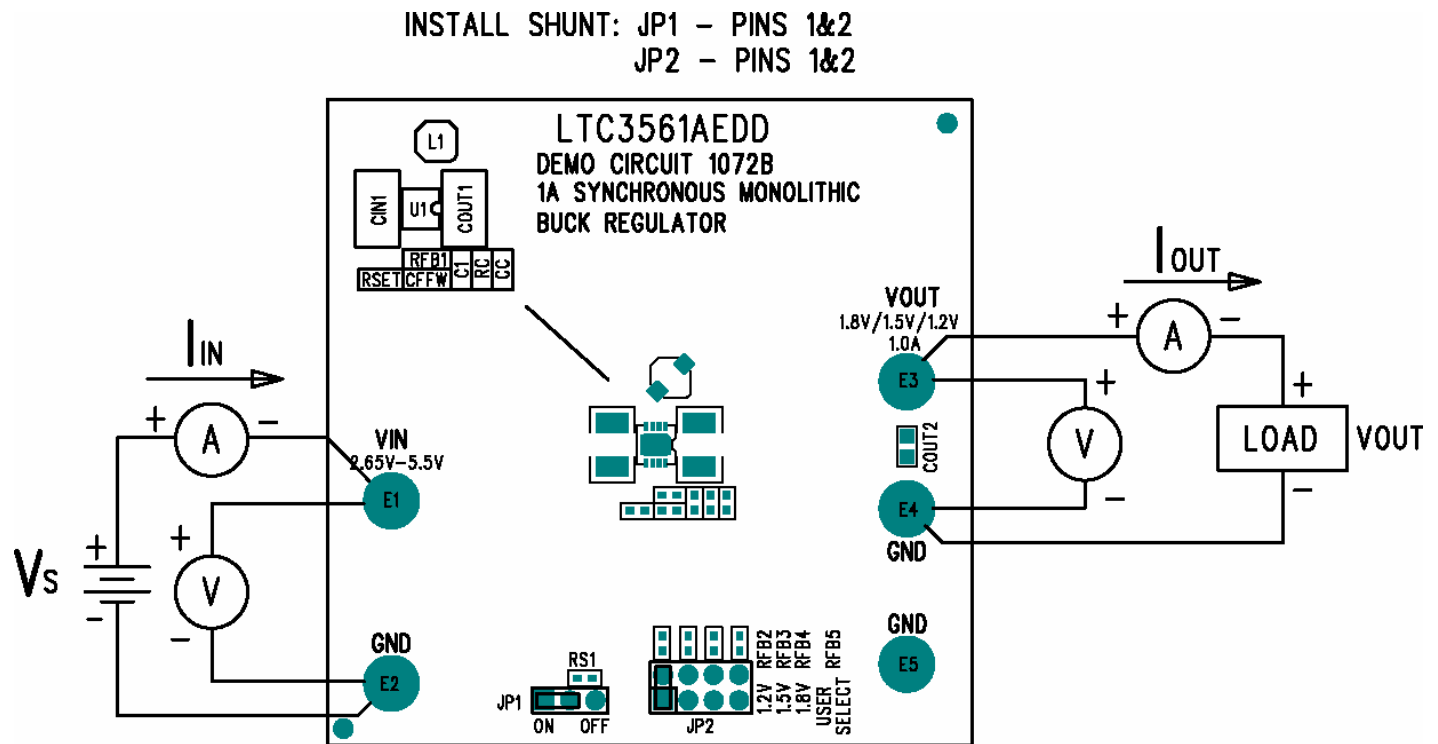

Figure 1. Proper Measurement Equipment Setup
Demonstration Circuit 1072B is easy to set up to evaluate the performance of the LTC3561A. For proper measurement equipment configuration, set up the circuit according to the diagram in **Figure 1**. Before proceeding to test, insert
1. With the DC1072B set up according to the proper measurement and equipment in **Figure 1**, apply 3.3V at Vin (Do not hot-plug Vin or increase Vin over the rated maximum supply voltage of 5.5V, or the part may be damaged.). Measure Vout; it should read 0V. If desired, one can measure the shutdown supply current at this point. The supply current will be approximately 10 μ A, or less, in shutdown.